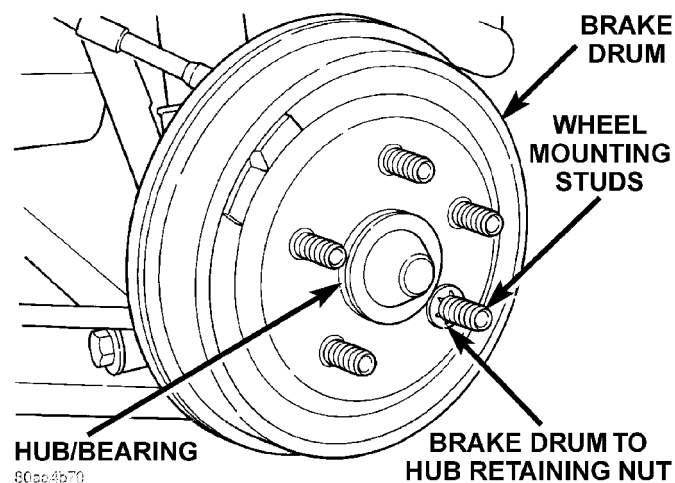

Fig. 79 Rear Brake Drum
(1) Raise vehicle on jackstands or centered on a hoist. See Hoisting in the Lubrication and Maintenance section of this manual.
(2) Remove the rear wheel and tire assemblies from the vehicle.
(3) Remove the brake drum to hub/bearing retaining clips (if equipped) (Fig. 79).